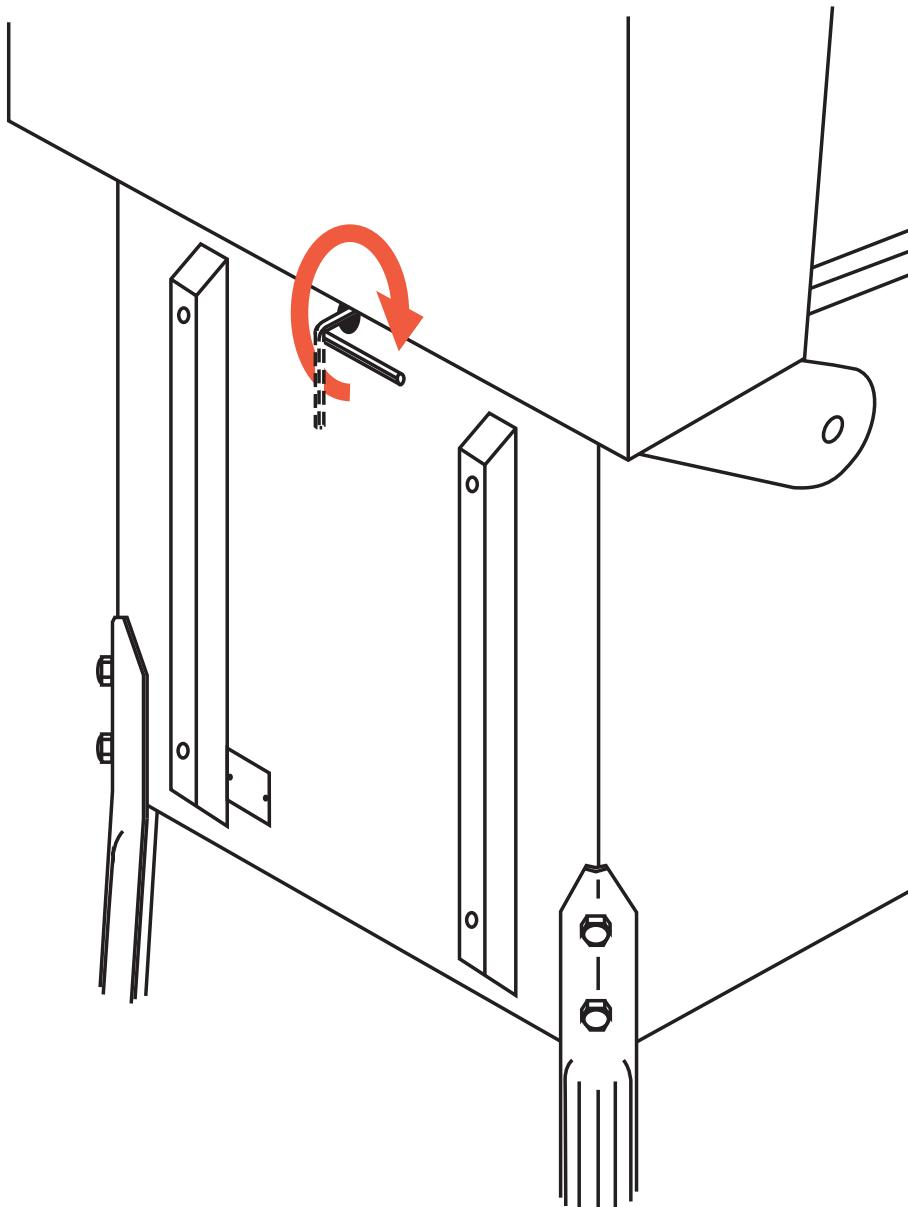

Figure A8. Locking the backbox in the upright position.
- 8) Locate the "L"-shaped, 5/16" hex key for the backbox Roto-Lock in the loose parts. Insert it into the hole at the base of the backbox and turn it a full 270 degrees CW (see figure A8).